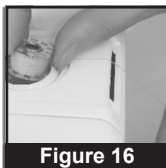

Figure 16
2. Place the bobbin into the Bobbin Case, (Figure 16) making sure that the thread unwinds in a clockwise direction. Allow approximately 4 inches of thread to extend from the case.